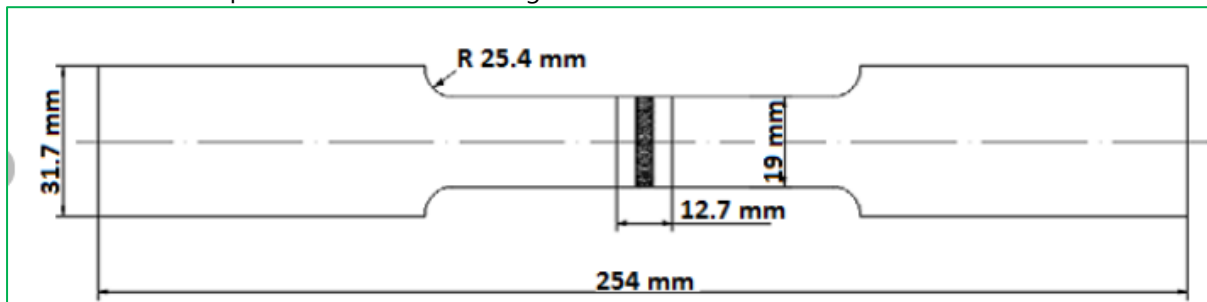

fig.4.1: Tension test specimen preparation
7. By joining the two broken halves of the specimen together, measure the final length and diameter of specimen as shown in fig.4.1.